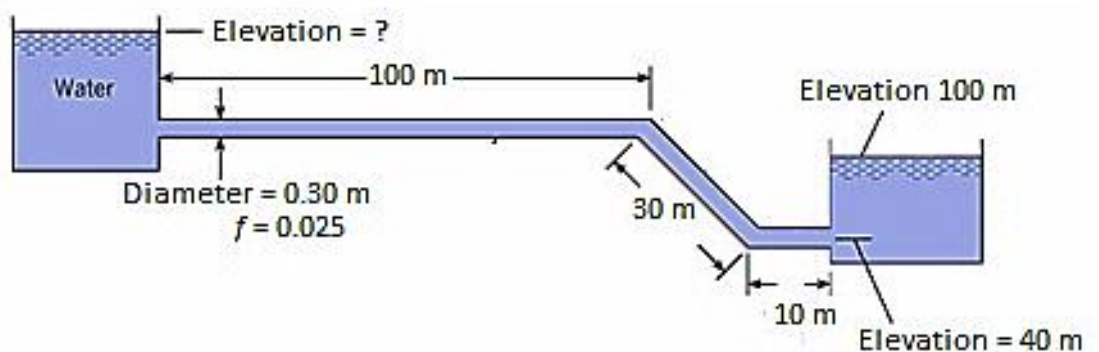

Figure 1 / Rajah 1
- (b). Determine the elevation required in the upper reservoir to produce a water discharge of 385 L/s in the pipe system as shown in **Figure 1**. Total loss includes major losses, minor losses at the entrance; exit and sharp bending should be considered. Assume the loss coefficient of sharp bending is 0.25.